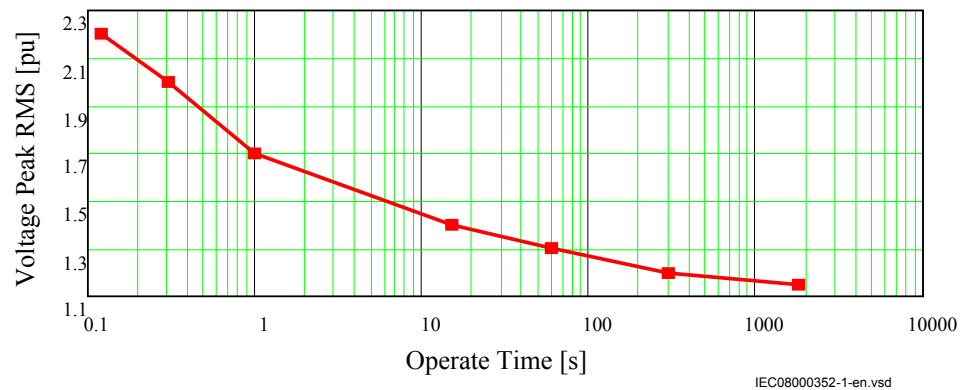

Figure 100: IDMT curve for harmonic overload ($kHOLIDMT=1.0$)
IDMT curve has adjustable k factor and inverse time characteristic is shown in figure 100, where $k = 1$. The IDMT curve starts only when the equivalent RMS voltage value is higher than set value of parameter $HOLIDMTU>$ and stays active until the value falls below the reset value.
1. When parameter $kHOLIDMT$ has different value from 1.0 operating time is proportionally changed (for example, when $kHOLIDMT=0.9$ operating times will be 90% of the values shown in above figure 100 and table 127)